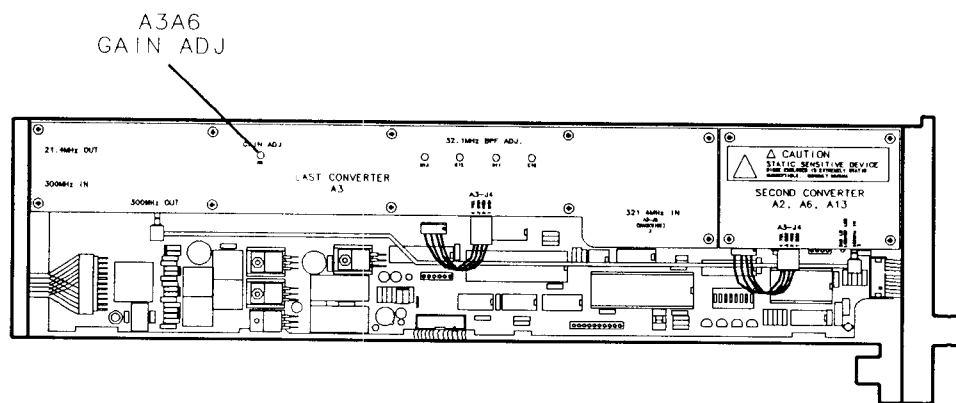

Figure 3-2. RF Flatness Gain Adjustment Location
2. Remove the left-side cover from the module to gain access to A3R6. See Figure 3-2.